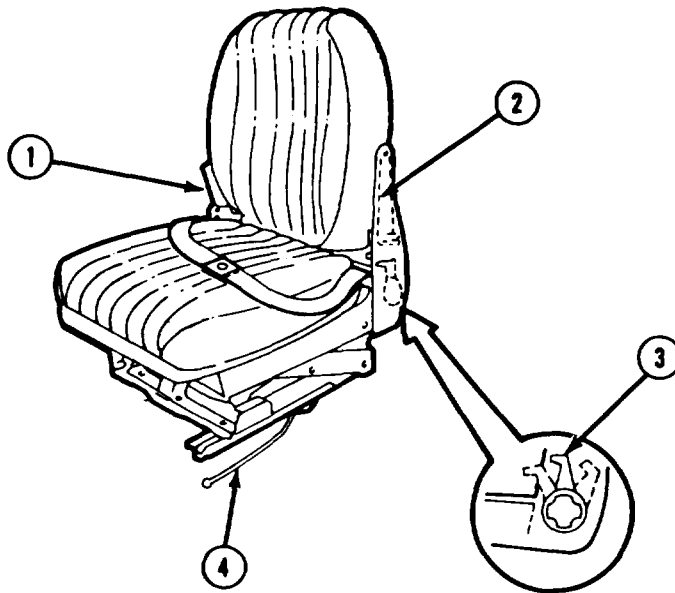

Figure 2-9. Operator's Seat Adjustment Controls.
1	<p>RIDE LEVEL ADJUSTMENT</p> <p>Use this control to adjust the torsion bar preload for your weight. To increase preload, while seated push ratchet trip lever up and operate the ratchet handle in the up and down direction until the indicator (item 3) is flush with the seat side frame as shown in the inset in Figure 2-9. To lower preload, while seated push ratchet trip lever down and operate ratchet handle in the up and down direction until the indicator indicates proper adjustment.</p> <div style="text-align: right;"> </div>
This device indicates when the seat preload is adjusted properly for your weight using the ride level adjustment described in item 1 above. The tip of the indicator will be flush with the edge of the frame when the preload is correct as shown in the inset view in Figure 2-9.